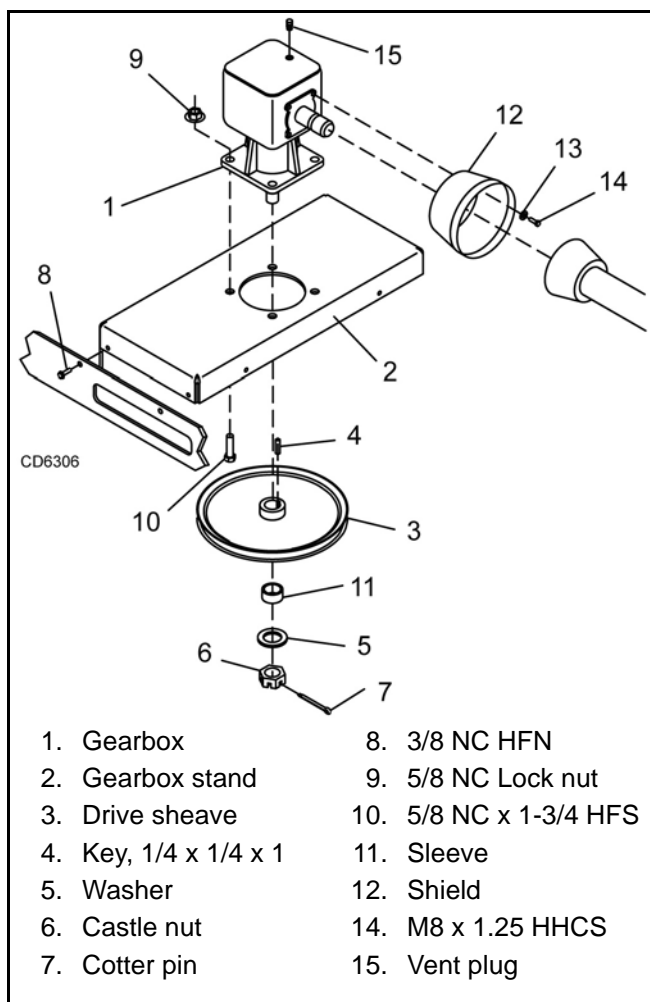

Figure 10. Gearbox Stand Assembly
- Remove vent plug (15), Figure 10, and siphon gear lube from housing through this opening.
- Remove gearbox stand (2) from mower deck by removing four hex screws (8).
- Remove four cap screws (14) and washers (13) and remove shield (12) from gearbox.
- Remove castle nut (6) and hardware from output shaft of gearbox.
- Remove sheave (3) from gearbox.
- Remove four bolts (10) that attach gearbox to gearbox stand and remove gearbox.